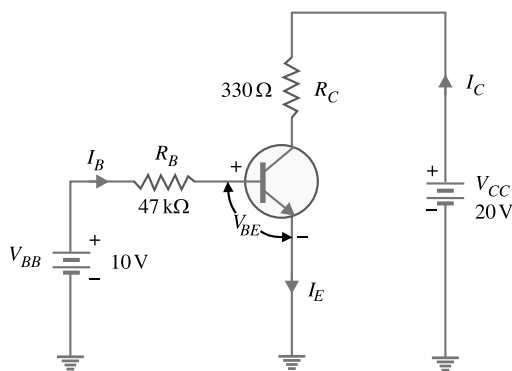

Fig. 6.42
**Example 6.29.** Determine the  $Q$  point of the transistor circuit shown in Fig. 6.42. Also draw the d.c. load line. Given  $\beta = 200$  and  $V_{BE} = 0.7$  V.
**Solution.** The presence of resistor  $R_B$  in the base circuit should not disturb you because we can apply Kirchhoff's voltage law to find the value of  $I_B$  and hence  $I_C (= \beta I_B)$ . Referring to Fig. 6.42 and applying Kirchhoff's voltage law to base-emitter loop, we have,